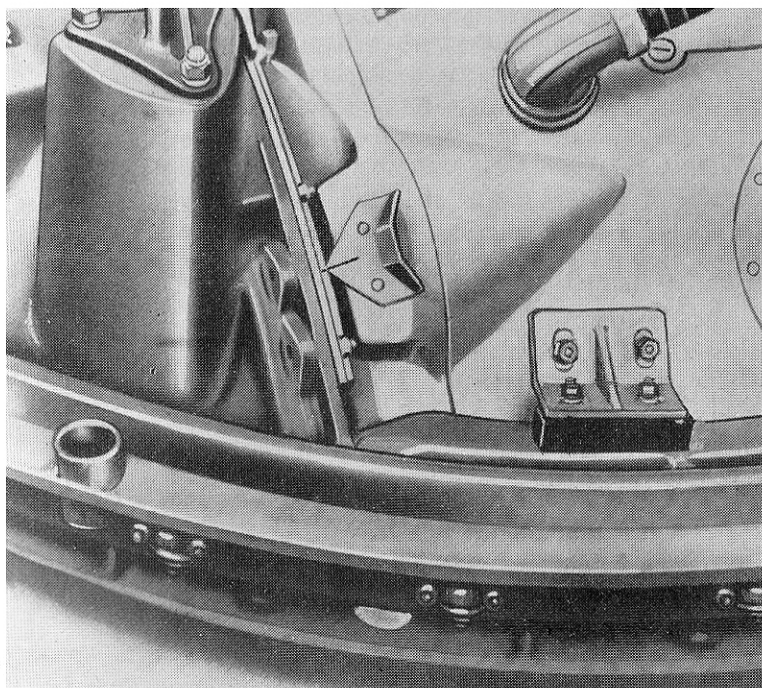

FIGURE 31—Elevation Limit Position of Turret
5. Engage the elevation power clutch and check *under power* to see where the stop takes effect. This should be at 0 degrees elevation as indicated by the pointer and the scribe mark on the brass elevation quadrant gear (see Figure 31).